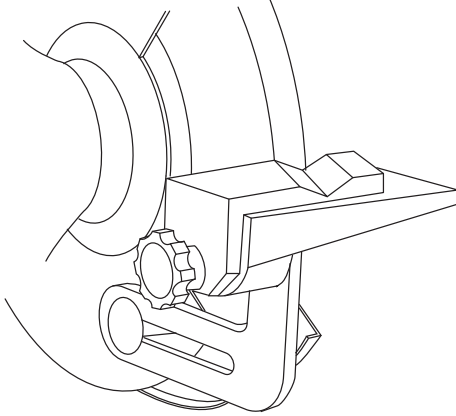

Figure 5 - Install the drill bit sharpening plate.
- Install the drill bit sharpening plate by loosening the right side adjustment knob until there is approximately a 1/4" of threads visible. Place the plate onto the right side tool rest and over the visible threads. The flat washer must be placed between the plate and the adjustment knob. Tighten the adjustment knob. See Figure 5.